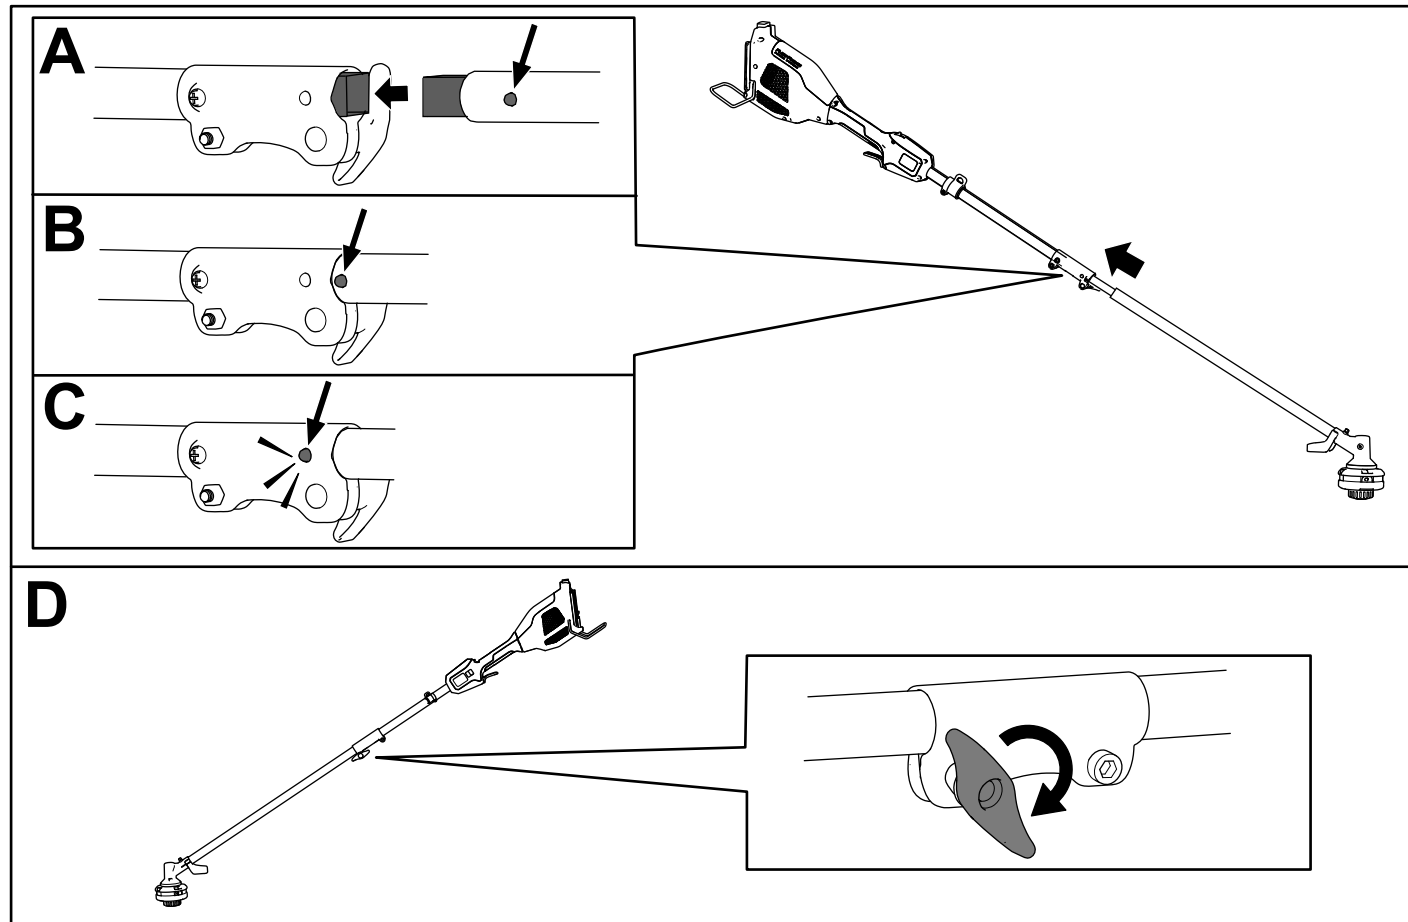

Figure 3
1. Install the square shaft of the string trimmer attachment into the square shaft of the power head (A of Figure 3).
2. Align the locking button on the lower shaft with the slotted hole on the upper shaft and slide the 2 shafts together (B and C of Figure 3).
**Note:** The locking button clicks into the slotted hole when the shafts are secured (C of Figure 3).
3. Using the screw-handle, tighten the screw on the shaft connector until it is secure (D of Figure 3).